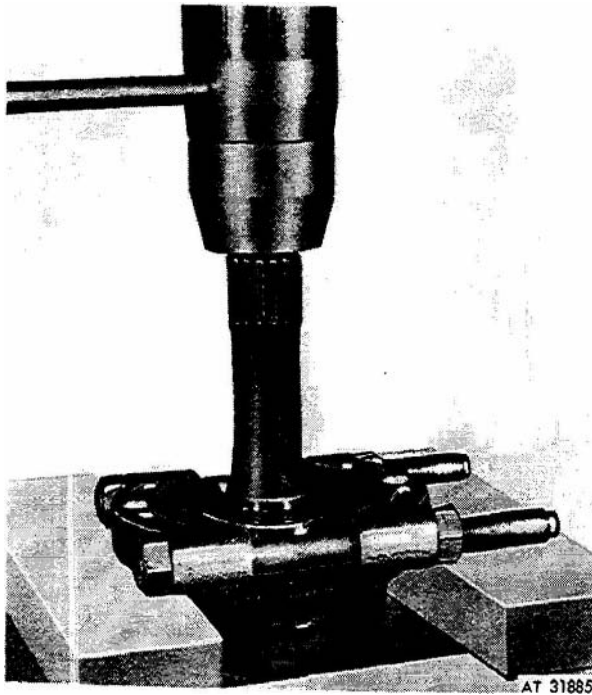

Figure 3-89. Pressing bearing from propeller shaft.
(2) Disconnect retainers (5 and 31) and gaskets (6 and 30) from housings (15 and 23) by removing screws (3 and 34) and lock washers (4 and 33).
(3) Disconnect retaining rings (8 and 28) from propeller shafts (1 and 35). Press bearings (7 and 29) from propeller shafts (fig 3-89).